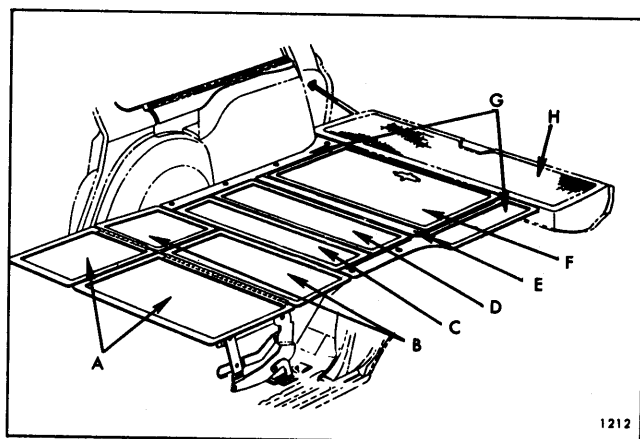

Fig. 15-73—Folding Seats and Rear Compartment Floor Panels - "A-65" Style Station Wagon
Figure 15-73 identifies the major load floor panels on the "65" Style Skylight station wagon.
1. Raise folding third seat. Remove rear compartment left side panel. (See Fig. 15-73.)